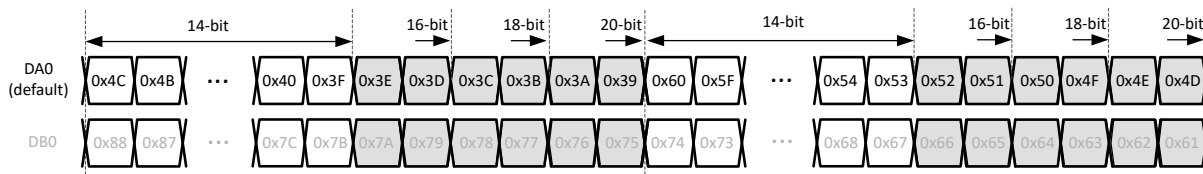

Figure 8-45. 1/2-wire output bit mapping
**1/2-wire mode:** The output is only lane DA0 and the sample order is programmed into the 40 addresses of chA (from 0x39 to 0x60). It covers 2 samples (one for chA, one for chB) as shown below. If desired, it can be duplicated on DB0 as well (using addresses shown Figure 8-45) in order to have a redundant output. Lane DB0 needs to be powered up in that case.